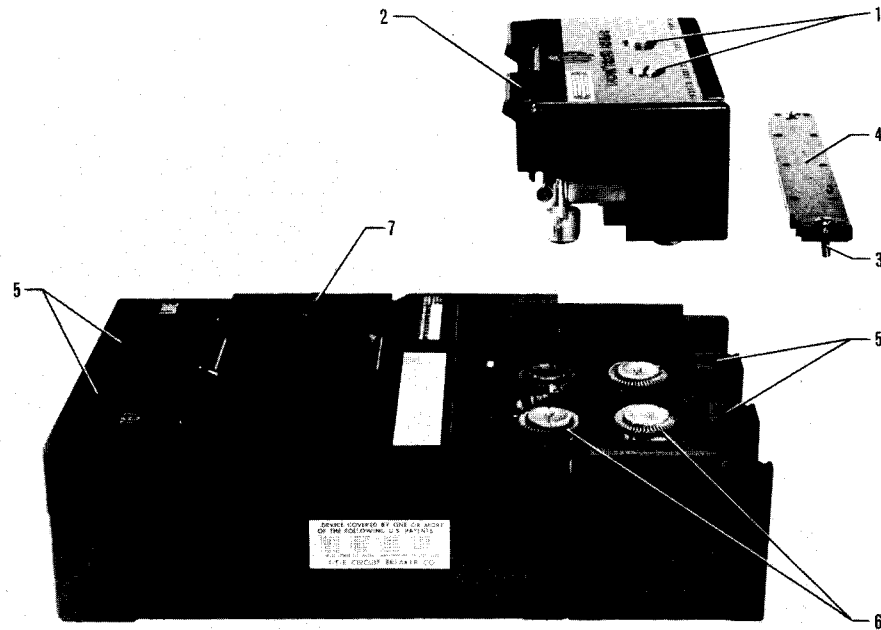

Fig. 1
### CIRCUIT BREAKER INSTALLATION (Reference Fig.1)
2. Loosen anchor screws (1, Fig.1) and pull Amp-trap assembly (2, Fig. 1) away from circuit breaker.
6. Replace Amp-trap assembly (2, Fig. 1) in circuit breaker and press inward to engage separable connectors (6, Fig. 1). Tighten anchor screws (1, Fig. 1) securely.
7. CORDON circuit breaker is now ready for service. To close, move handle (7, Fig. 1) to extreme "OFF" position, then to "ON" position.